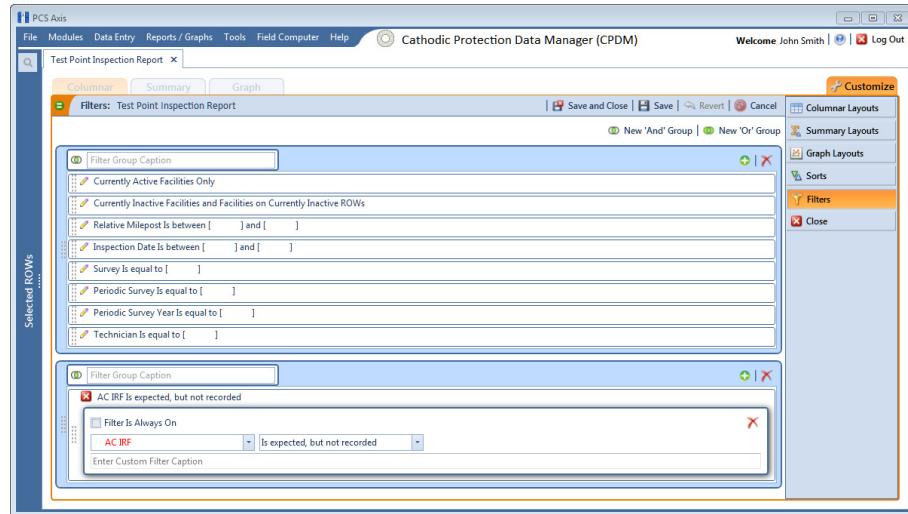

Figure 16-46. New 'And' Filter Group
- 4 Click  **New 'And' Group** to open the filter properties group box (Figure 16-46).